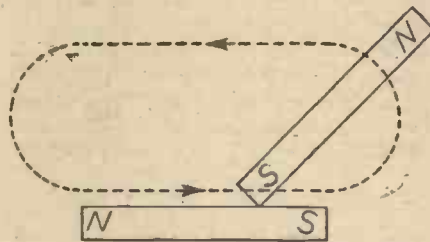

Fig. 1.—Simple method of demagnetisation.
3. Magnetic Induction.—If the article to be demagnetised is of a convenient shape it can be partially demagnetised by stroking it with a permanent magnet, as in Fig. 1. It is, however, impossible to entirely destroy the magnetism in the body without remagnetising it in the opposite direction. The method, therefore, is of no practical value.